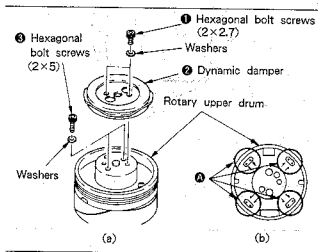

Fig. 7-45.
- 1) Remove the two hexagonal bolt screws ① and remove the dynamic damper ②. (See Fig. 7-45.)
- 2) Remove all eight solders in section A and confirm that the board and the pins on the bottom can move freely, using tweezers or the like. (See Fig. 7-45.)
- 3) Remove the two hexagonal bolt screws ③. (See Fig. 7-45.)
- 6) Solder the pins in section A. (See Fig. 7-45.)
- 7) Mount the dynamic damper ② with the two hexagonal bolt screws ①. (See Fig. 7-45.)